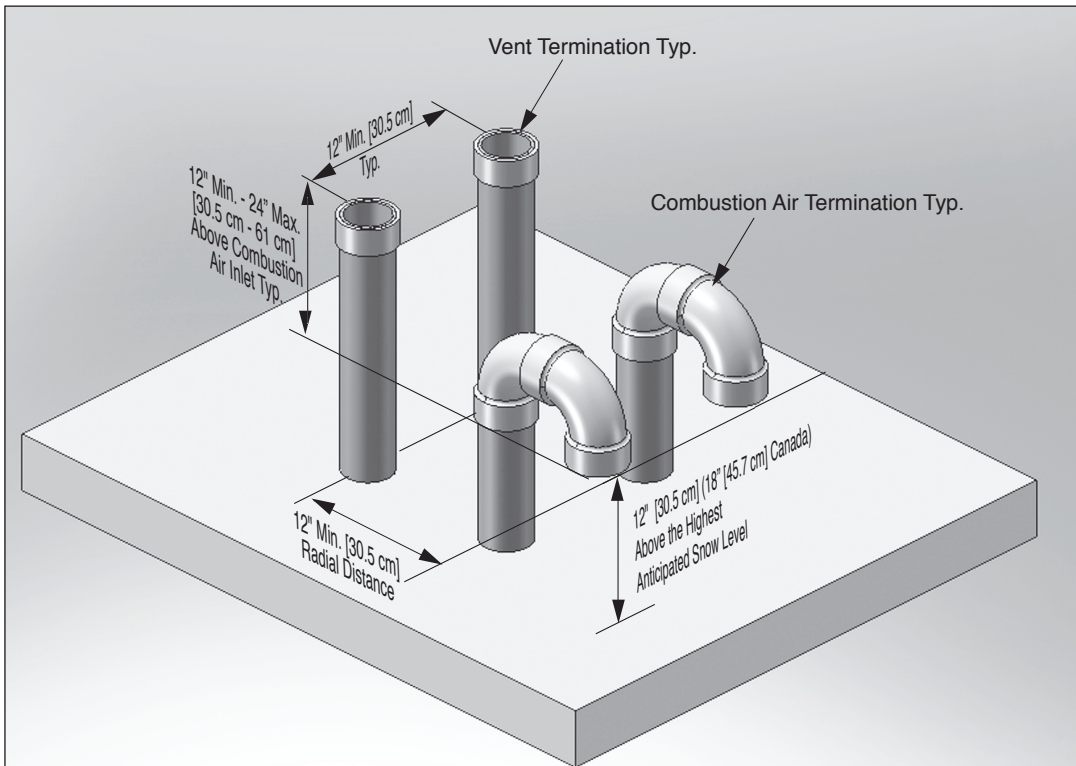

Fig. 5 - Direct Vent - Vertical Termination of Multiple INSTINCT Boilers
2. The roof penetration of the vent and combustion air piping must be such that the combustion air inlet is a minimum 12" [30.5 cm] from the adjacent vent pipe of the other boiler for installations in the U.S. as shown in *Fig. 5* on page 14. For installations in Canada, provide clearances as required by CAN/CSA B149.1.